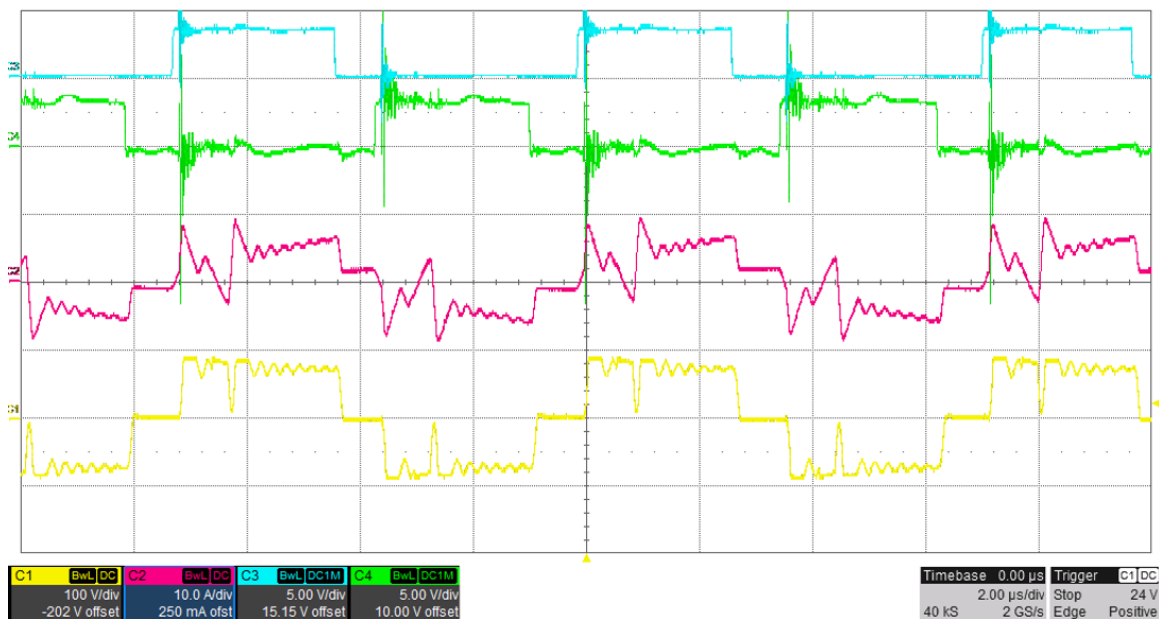
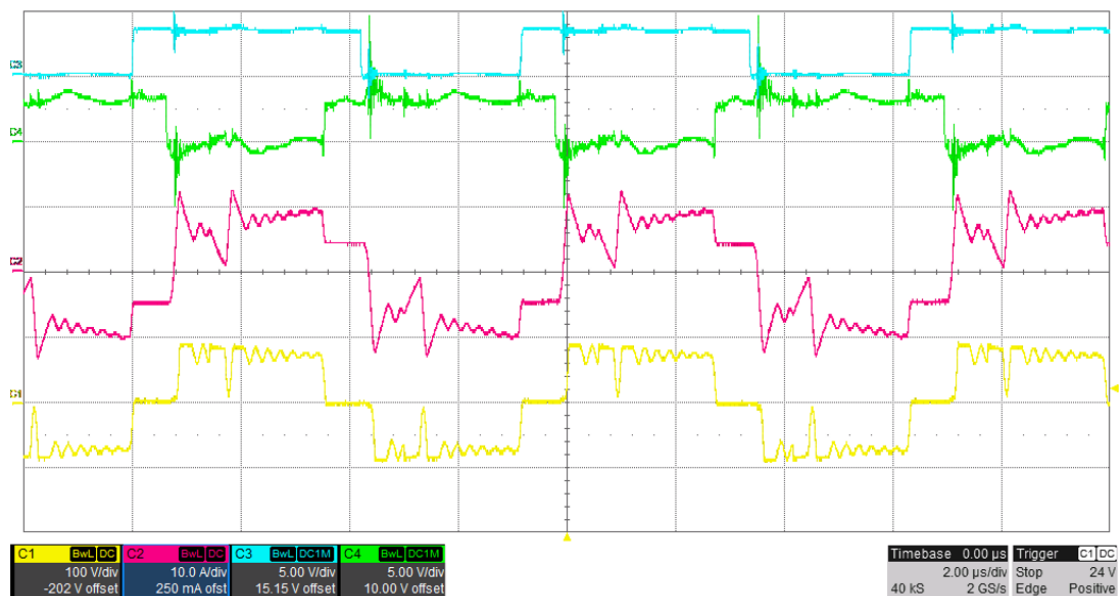

Figure 20 – C1 Vsec, C2 Ipri, C3 leg4\_Is PWM, C4 leg3\_Is PWM, SR Mode 1
Figure 21 – C1 Vsec, C2 Ipri, C3 leg4\_Is PWM, C4 leg3\_Is PWM, SR Mode 2
14. Automatic SR mode switching function is enabled in Lab2. Also, the variable *PSFB\_SR\_switching\_enable* is set to 1 only after soft-start is completed and the *PSFB\_run\_flag* is set to 1. This means that the automatic SR switching is disabled during soft-start. After the soft-start is completed and the load current is varied between 2A to 55A (full load of 3kW) the variable *PSFB\_SR\_mode* will change automatically between 0, 1 or 2 only, indicating SR mode 0, SR mode 1 and SR mode 2 respectively. Observe the corresponding PWM3 and PWM4 waveforms as the SR modes varies with load. Verify that the waveforms under different modes match with those illustrated in Figure 20 and Figure 21 at the specified operation conditions.